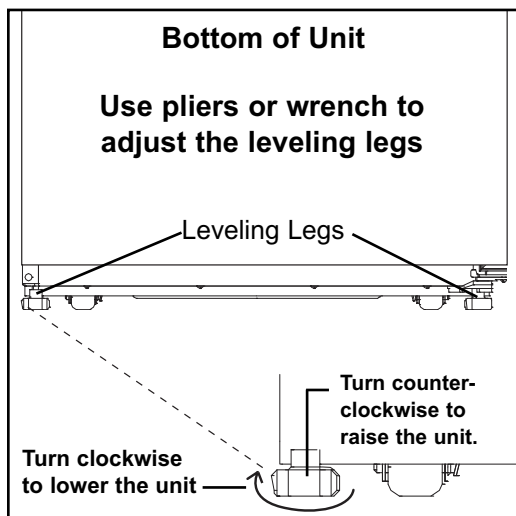

Fig.1.
To avoid vibration, the unit must be set level. This is accomplished by adjusting the (2) front leveling legs, located under the refrigerator. (Fig 1)
- 6) Remove the cover of upper hinge holes from left side and move it to opposite side (see **Figure 1** on following page).